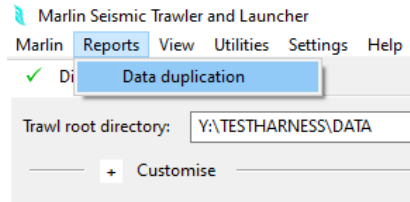

Figure 2-11 Reports Menu Data Duplication
1. Click the Reports tab on the main menu and then select Data duplication from the drop-down (Figure 2-11 below)